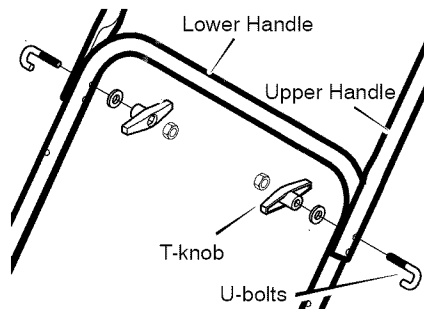

Figure 2
1. Remove the T-knobs and U-bolts from the lower handle (Figure 2).